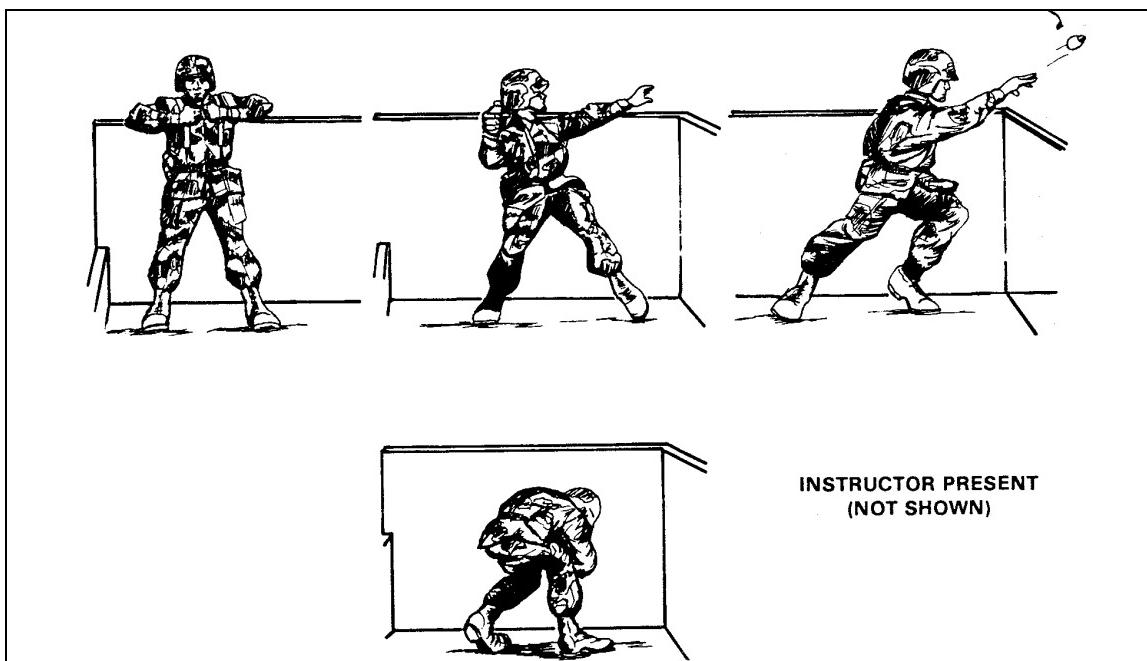

Figure 4-6. Live-bay throwing pit.
- (1) Soldiers must have mock-bay training before throwing live grenades at live bay.
- (2) Soldiers must receive a safety briefing before throwing live grenades.
- (3) Throughout hand grenade training, especially at a live-bay pit, instructors must instill confidence in the soldiers, not apprehension. Hand grenades are inherently safe when used properly.
- (4) Soldiers throwing live hand grenades must have a target. This makes sense tactically and provides a safer training environment. Consult the local range regulations for any restrictions.
- (5) If facilities permit, an observation window allows the soldiers to observe the live-bay throwing procedures before and after throwing the hand grenades. (For a suggested live-bay layout, see Figures 4-6 and 4-7.)
- (6) Soldiers must carry the hand grenades to the throwing pits using the proper right or left handgrips.
- (7) Soldiers must wear flak vests, Kevlars, ear plugs, and eye armor, if available.